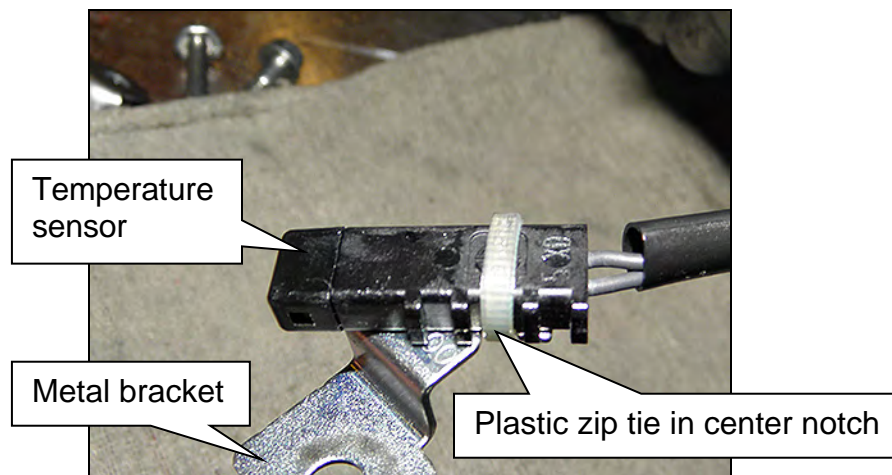

Figure 6D
- a. Cut the plastic zip tie with an appropriate tool to remove the temperature sensor bracket from the terminal harness assembly (see Figure 6D).